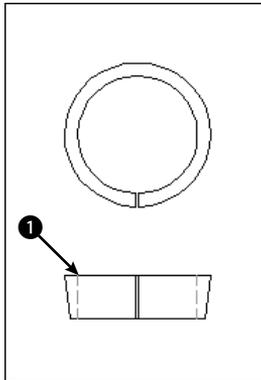

Figure 9-9: The valve piece in two views.
2. Save the file as `ab09-06.dwg` in your AutoCAD Bible folder. This drawing, shown in Figure 9-9, shows part of a valve that is manufactured in several sizes. In this exercise, you scale both views to represent a different-size valve piece. Ensure OSNAP is on. Set running object snaps for quadrant and endpoint.
Specify base point: Use the Endpoint object snap at point 1 in Figure 9-9.